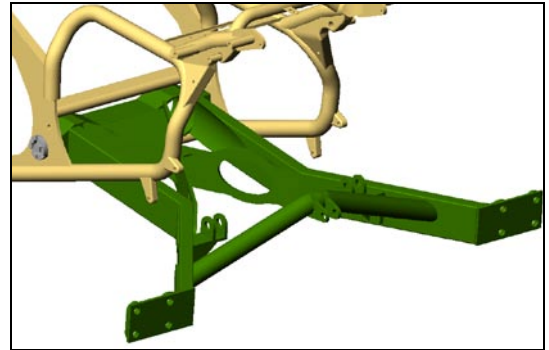

Figure 17
- a. Install supplied bushings to left and right pivot bearings of Champion Swing Arm. Figure 17